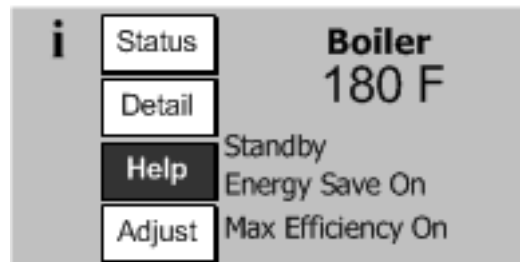

Figure 11.2c: Home Screen with Active Fault
- 13) If there is a problem that appears before the first try for ignition, or if the boiler fails to light after four tries for ignition, the blinking red screen with “HELP” highlighted on the Home screen (Figure 11.2c). Touching this “HELP” button will take the user to the Diagnostics menu where the cause of the problem can usually be found by pressing the flashing button on each successive screen. For more information, see Operation Manual.